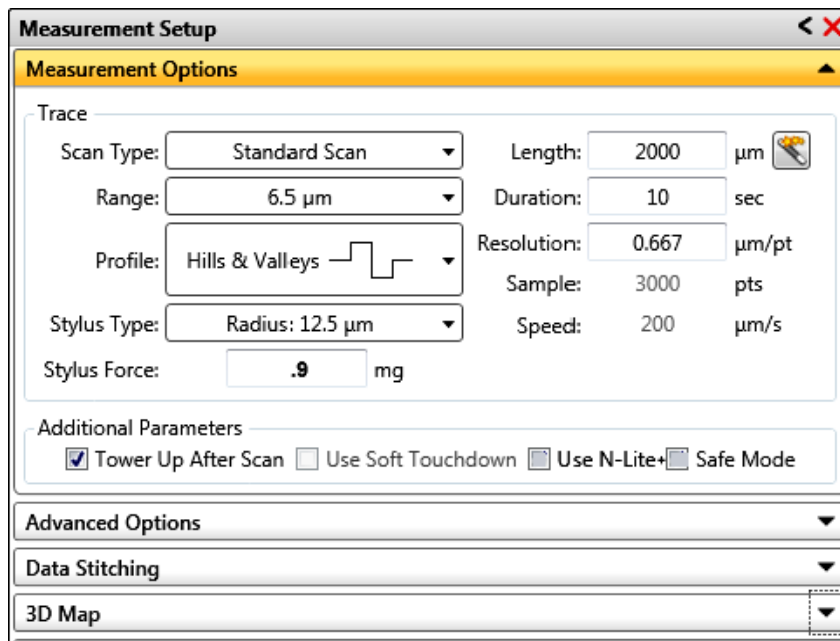

Figure 4-5: Measurement Options Window
- 9 On the **Measurement Options** tab of the **Measurement Setup** window, select **Standard Scan** (see Figure 4-5).